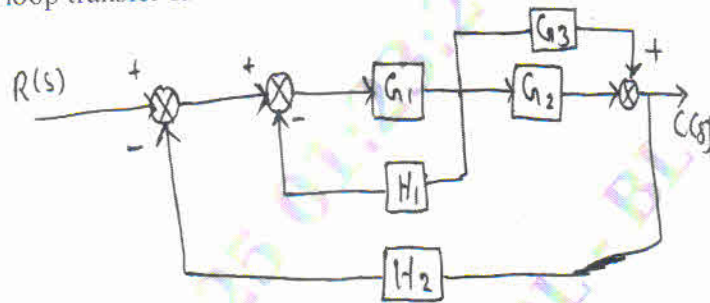

Fig. Q5 (b)
b. Develop a closed loop transfer function for the block diagram shown in Fig. Q5 (b).